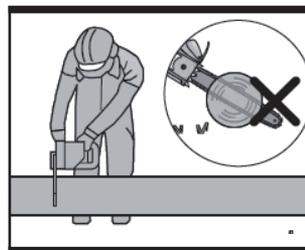

Fig. 25
- Bucking is cutting a log into lengths. It is important to make sure your footing is firm and your weight is evenly distributed on both feet. When possible, the log should be raised and supported by the use of limbs, logs or chocks. Follow the simple directions for easy cutting. When the log is supported along its entire as illustrated, it is cut from the top (overbuck). (See Fig. 25)